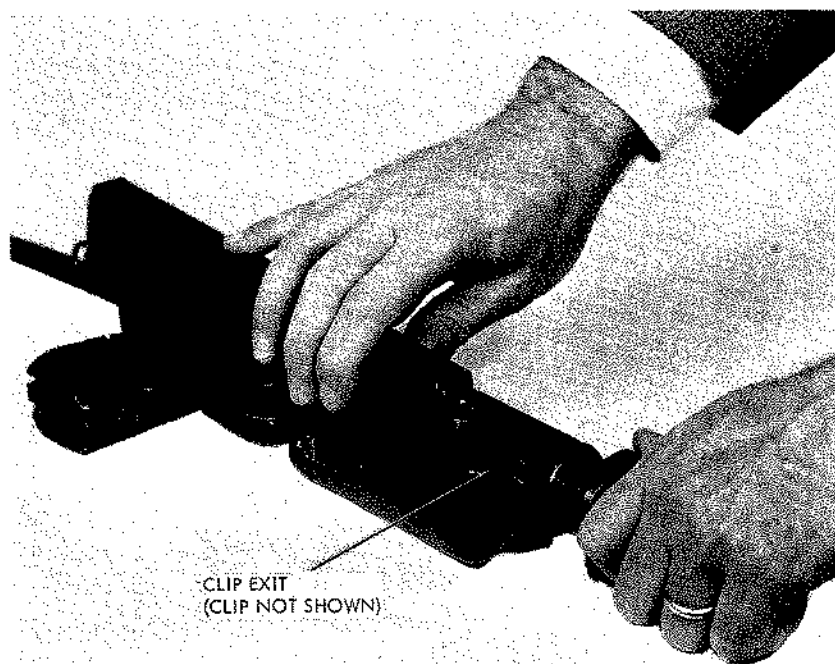

Figure 46. Using magazine filler to load magazine.
a. Load a magazine by using the technique described in paragraph 39a or, if clipped ammunition is available, place a clip, bullets up, on the magazine filler (fig 46). Place the magazine on the filler, with the rib on the rear wall of the magazine in the slot in the filler. Press the magazine forward. This will strip the cartridges off the clip and into the magazine; at the same time, the clip will be driven out of the clip exit. Repeat this action until the magazine is full.